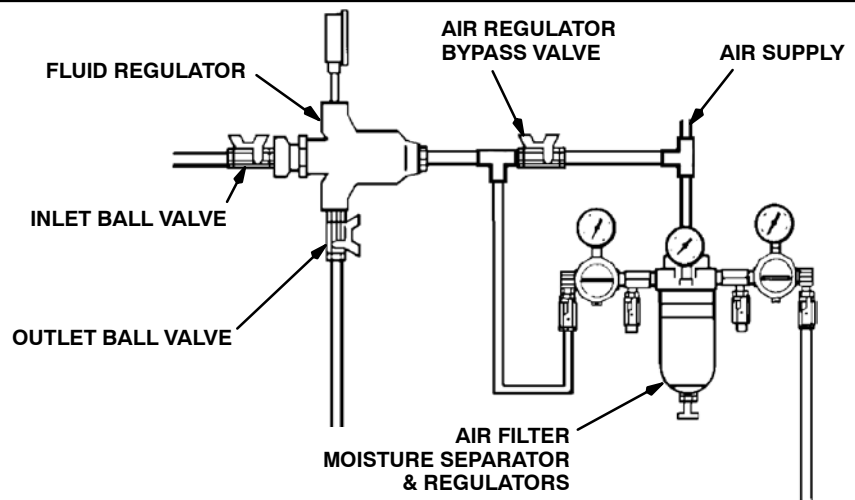
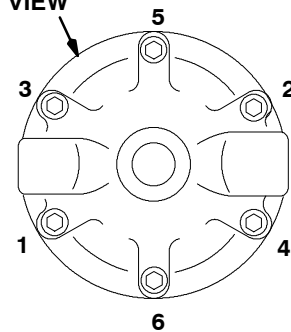

Fig. 2
Fig. 4
1. Start the pump and open the fluid regulator's inlet ball valve to admit fluid to the regulator. See Fig. 2.
2. Close the ball valve at the regulator's air inlet. Refer to Fig. 2.
5. Remove the swivel union (23) and spring (40) from the regulator body.
6. Remove the ball (20), seat (16), and gasket (15). See Fig. 4.
10. Remove the spring (3), valve stem (9), and gasket (21) from the stem housing (18).
12. Place stem housing (18) in a vise. One at a time, place the gasket (26), diaphragm (22) - *white PTFE side down toward the bottom housing*, and washer (17) on the stem housing (18). Secure them with the jam nut (13). Torque the jam nut onto the stem housing to 21–35 ft-lb (28–47 N•m).
13. Install the valve stem (9), spring (3), gasket (21), and retaining screw (10) in the stem housing (18). Make sure the tab on the valve stem (9) fits into the slot on screw (10).
15. Install the assembled parts in the housing (6).
16. On Model 214980, tighten the air line fitting (29) into the cap (7). Torque to 20–25 ft-lb (27–34 N•m).
17. Install the cap (7). Tighten the six cap screws (1) in the sequence shown in Fig. 4, **Bottom View**, and to the torque noted.
18. Install the gasket (15), valve seat (16), and ball (20) into the housing (6).